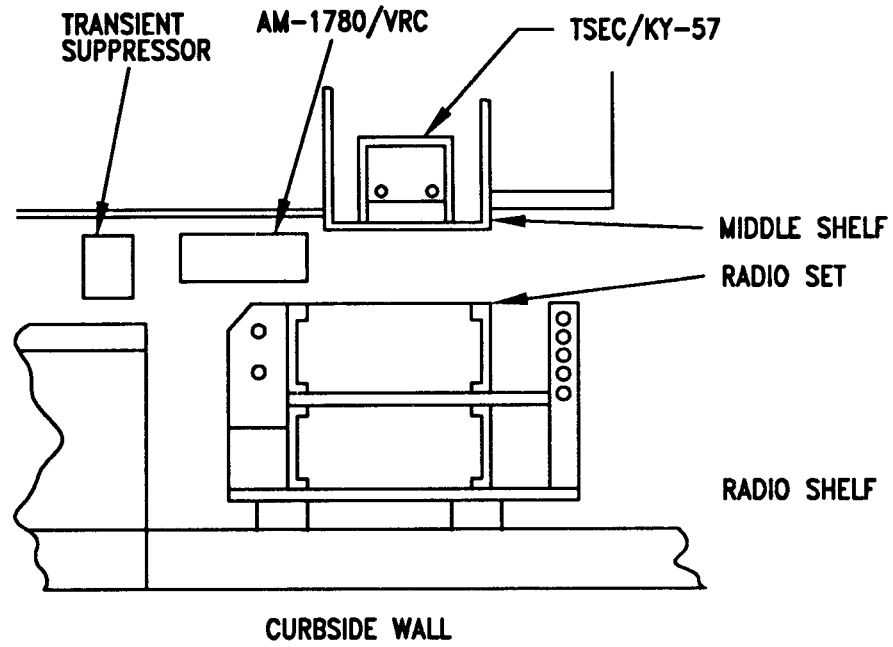

Figure 5-1(2). MK and Radio Installation: Radio Equipment Locations
**5.1.1 Installation of Antenna Mounting Bracket.** Use the following procedure to install mounting bracket. See Figure 5-1(1) for location.